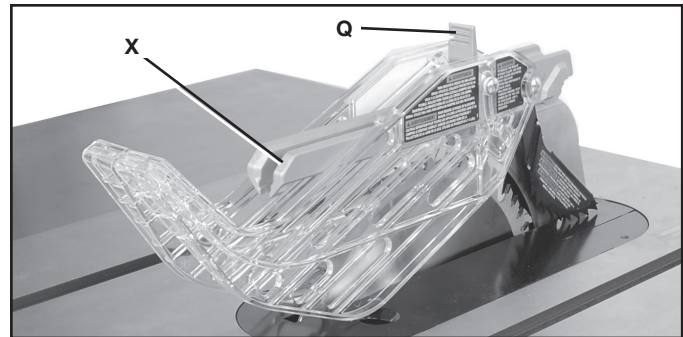
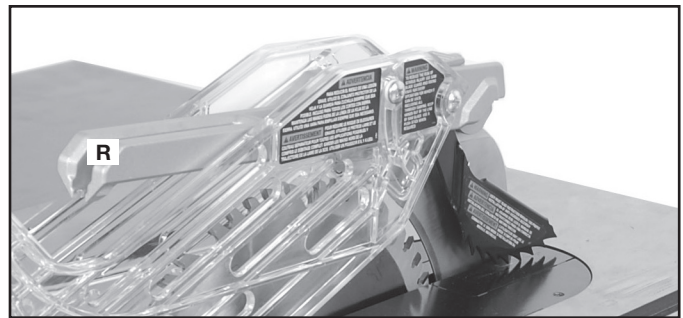

FIG. 13
FIG. 14
1. While holding the blade guard assembly (N) in a vertical position, slide the locating pin (O) into the riving knife slot (P) centering the riving knife within the v-shaped notch in the top guard.
2. Rotate the blade guard assembly towards the front of the saw while keeping the pin (O) at the top of the riving knife slot. Rotate until the blade guard assembly is parallel to the table. See Fig. 13.
3. While holding down on the front of the metal portion of the guard (X), press the blade guard lock lever (Q) Fig. 13 down until it snaps into the locked position, as shown in Fig. 14. Check to make sure the guard is locked onto the riving knife by pulling on the guard at (R) Fig. 14. If the guard is not locked the blade guard lock lever will flip up to the unlocked position, as shown in Fig. 13.
1. Lift the blade guard assembly lock lever (Q) Fig. 13 to the unlocked position.